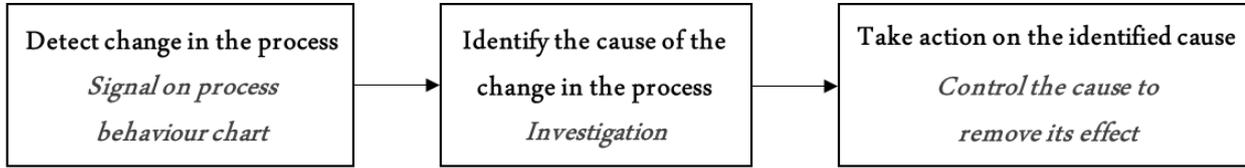

Figure 7: The way Tokai Rika approached process predictability.
5. Inherent to Tokai Rika’s approach to sustaining predictable and economic operation, and therefore fighting against the effects of entropy, is the three step process found in figure 7: